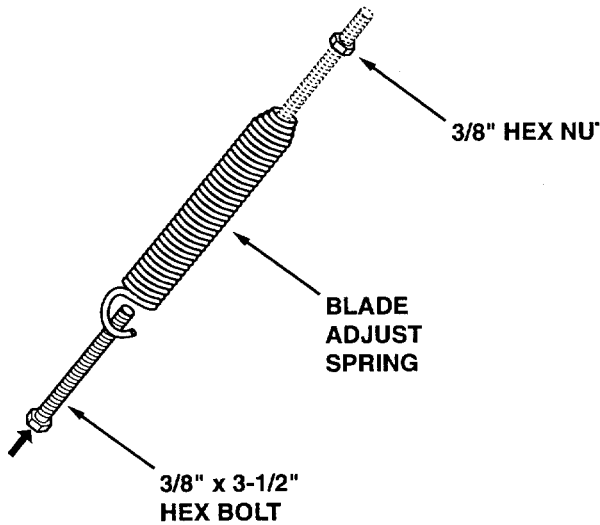

Figure 3
5. Insert the 3/8" x 3-1/2" hex bolt through the blade adjust spring. Assemble a 3/8" hex nut about 1" onto the end of the bolt. See figure 3.